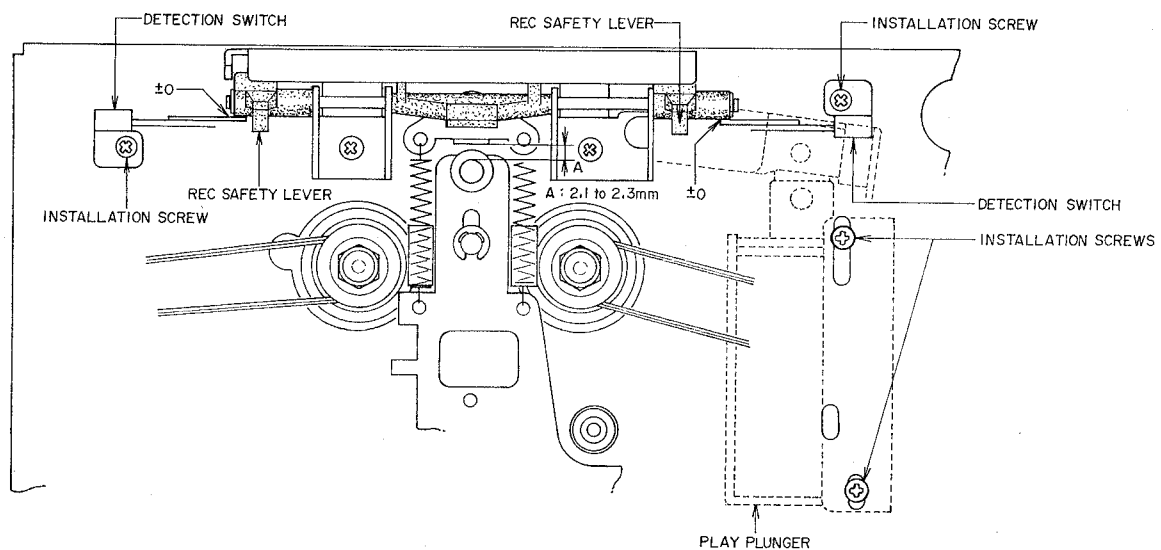

Fig. 11
4. Play Plunger Installation Position Adjustment (Refer to Fig. 11)
Put in either forward or reverse modes (the play plunger operates), loosen the two installation screws and adjust the play plunger's position so that gap A (Fig. 11) is 2.1 to 2.3 mm. After adjustment, paint lock the installation screws.
5. Recording Detection Switch Position Adjustment (Refer to Fig. 11)